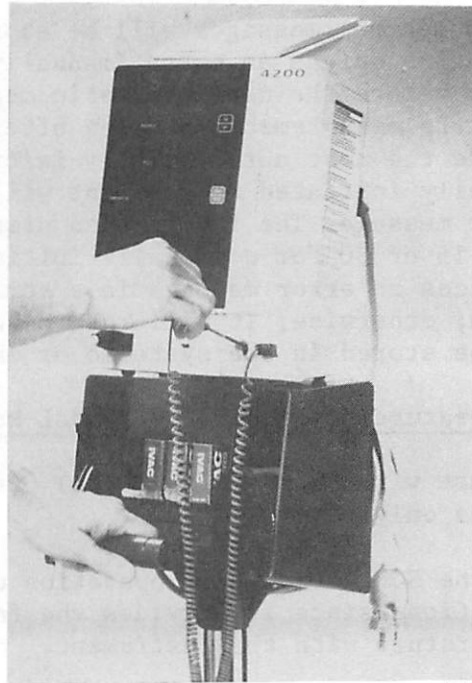

Figure 2-5. Probe Cover Attachment
- e. Hold the instrument stand handle with one hand, and with the other hand insert the thermometer probe completely and firmly into a probe cover to ensure a secure fit. (See figure 2-5.)